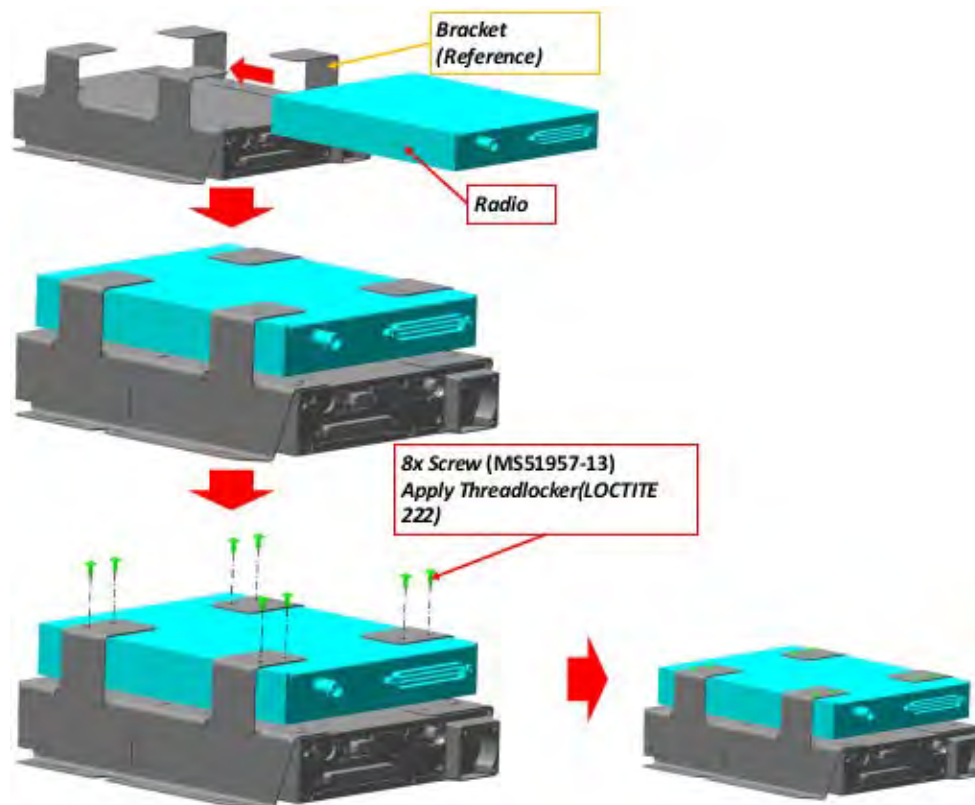

FIGURE 14-68
- f. Install Radio (ICA014700) into radio and transponder bracket as shown using 8x screws (MS51957-13). (See Figure 14-68.)